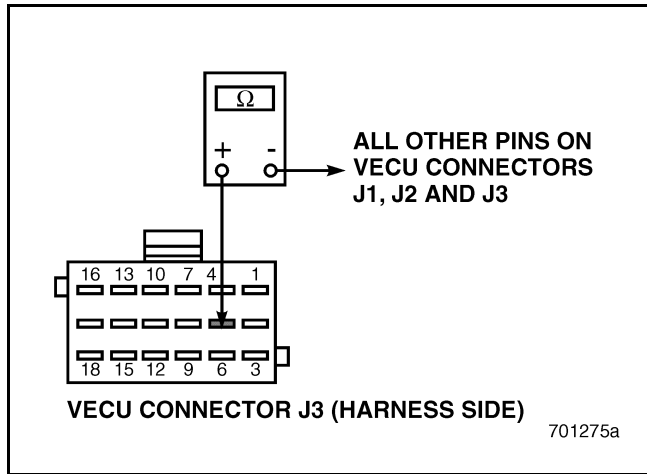

Figure 553
2. Disconnect the Throttle Position (TP) Sensor.
4. Check for continuity between VECU connector J3 pin 5 and all other pins on VECU connectors J1, J2 and J3 (see Figure 553).